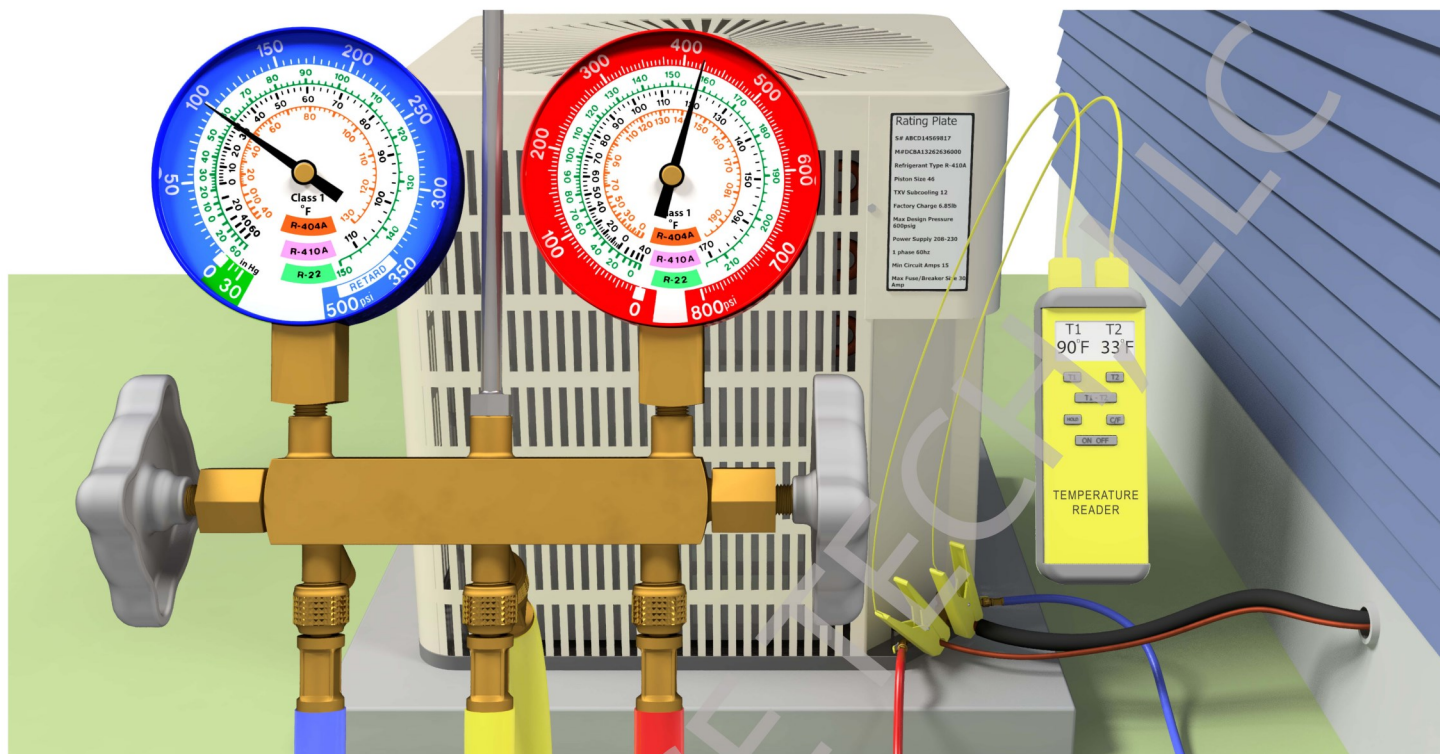

Figure 13-2: R-410A System, Low Indoor Airflow, Overcharged
Figure 13-2 shows an R-410A system with a fixed orifice that has a **low indoor airflow problem** and is **overcharged with refrigerant**.
**Scenario in Figure 13-2: R-410A, Fixed Orifice, Low Indoor Airflow, Overcharged**